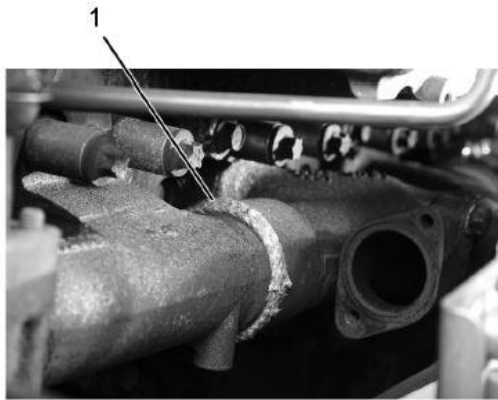

Figure 9: Rear Exhaust Manifold Ring Seal Packing
21. Wrap seal packing (**Figure 9**, Item 1) around manifold ring joint and align so that seal ends meet at top of manifold.